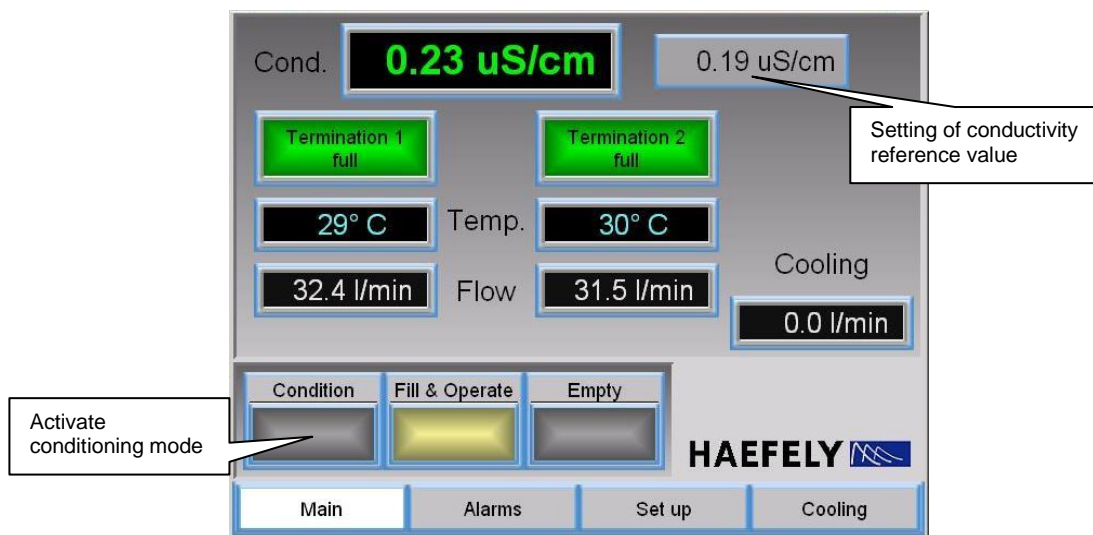

Figure 28: AC testing Main menu
Choose the desired conductivity according the CTT's manual in the Main menu and start conditioning by pressing the <Condition> touch button. Now the corresponding valves will be opened, the pump starts and the system regulates to the set conductivity value (Figure 28).
- Choose the desired conductivity according to the CTT's manual in the Main menu and start conditioning by pressing the <Fill & Operate> touch button. Now the corresponding valves will be opened, the pump starts, the termination tubes will be filled and the system regulates to the set conductivity value (Figure 28). At the terminations you can hear a fizzling at the air valve in top termination. As soon as the termination tubes are completely filled with water, the status indication of the termination will change from grey to green light and the security circuit will be closed. The system regulates the temperature and set conductivity value.